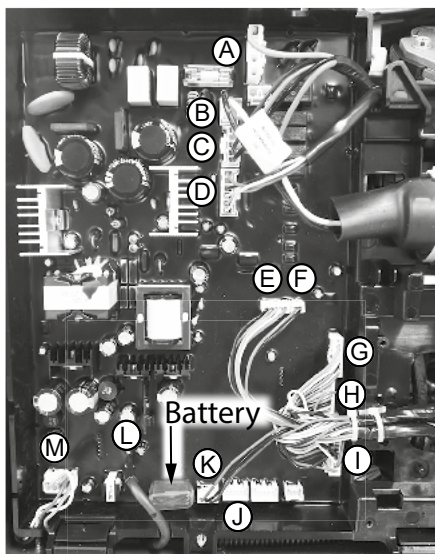

Figure 5 - Wiring harness connection points.
4 Locate and disconnect the wiring harness connection point J shown in Figure 5.
- 14 Using Figure 5 as reference disconnect the wiring harnesses A through M from the control board.